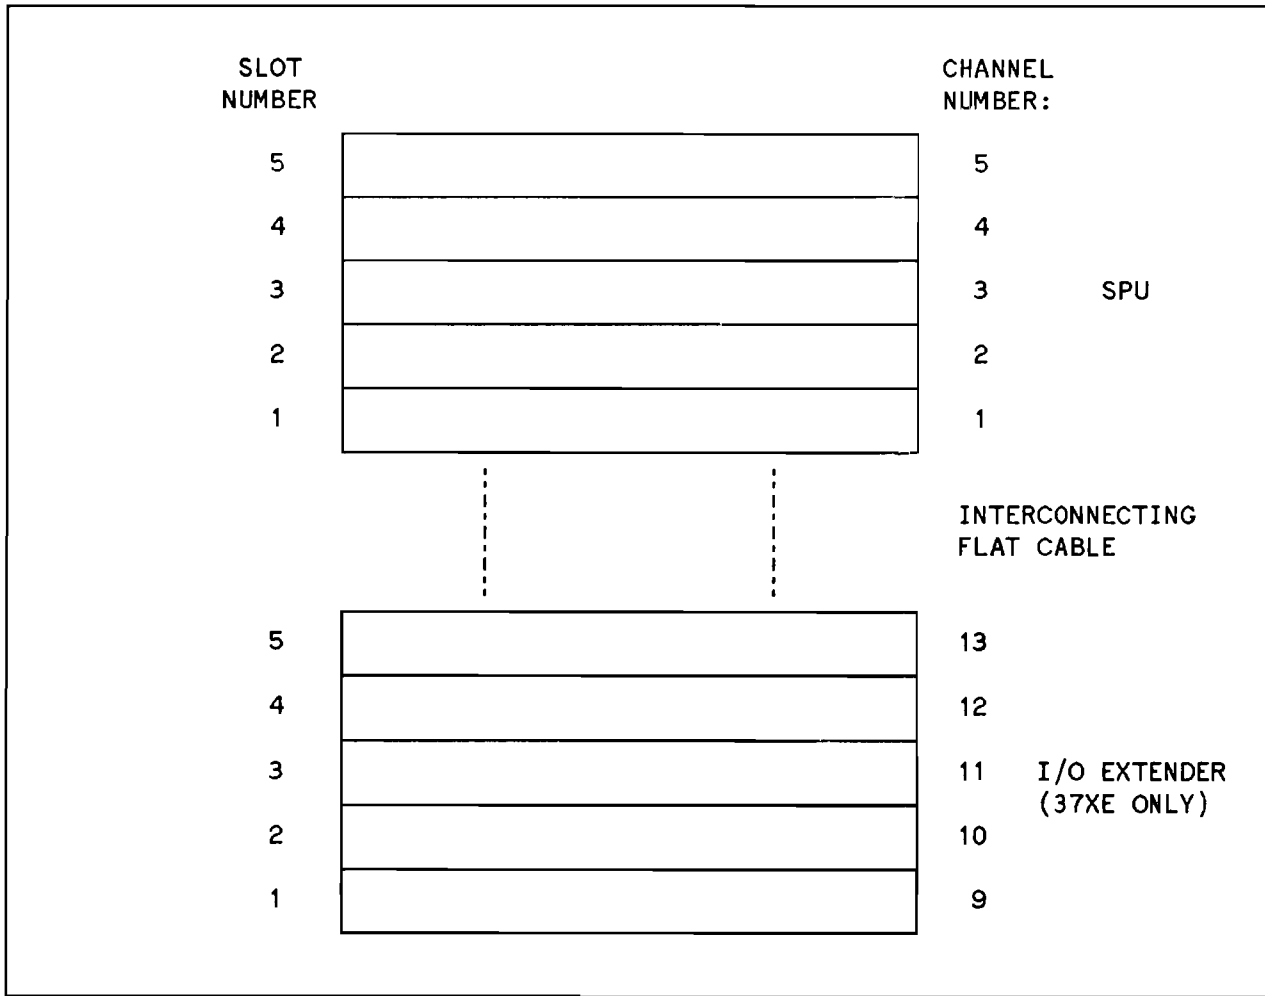

Figure 2-1 SPU/Extender Slot & Channel Assignments
Both the SPU and the I/O Extender have a 5 slot card cage. Slot 1 always has the highest priority and slot 5 has the lowest. PCAs fitted in the SPU slots always have a lower priority than those in the I/O Extender. The SPU and the I/O Extender have slot numbers marked on their rear panels. Figure 2-1 shows the channel numbers associated to each slot.
- Take the label marked with the correct slot number (see Figure 2-1) from the adhesive labels provided and stick it on the connector panel for identification.